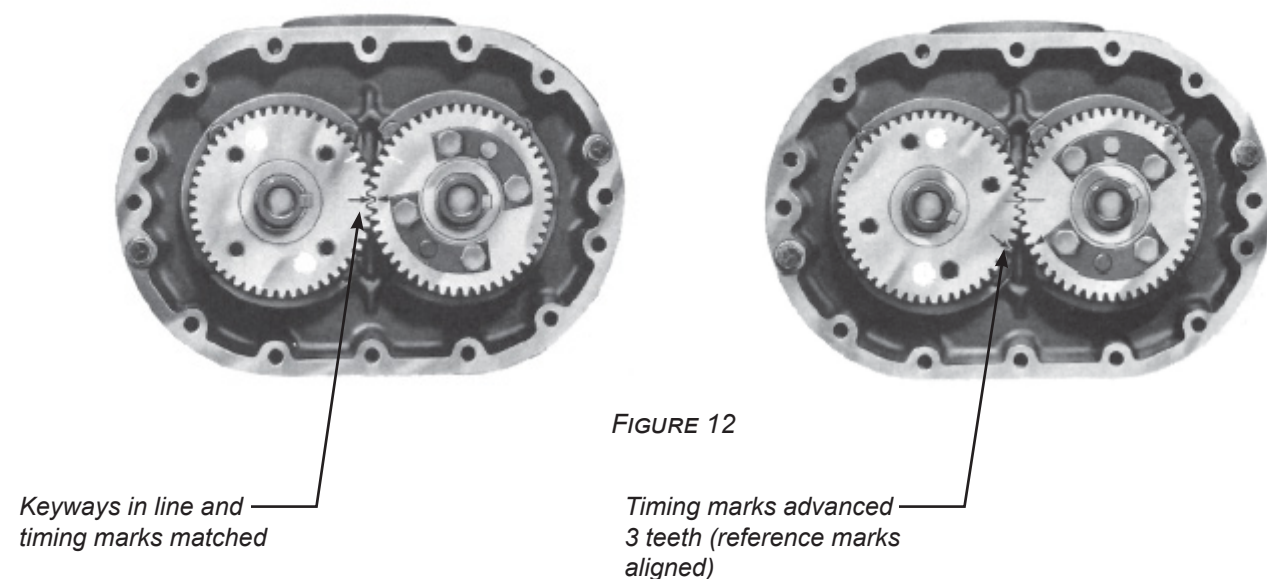

FIGURE 12
9. Align the timing marks (See Figure 12 on timing gears).
10. Rotate the drive gear in a clockwise rotation approximately 4 or 5 teeth and mark this location (see Figure 12). This gear position is necessary so rotors will clear and not jam. Do not allow the reference marks to change location while the driven gear is being removed
20. Lubricate the shafts and install the drive gear (right hand helix) on the drive rotor (left side). To install the driven gear, align the reference marks as shown in Figure 12. Install the driven gear carefully to avoid mashing any teeth when engaging the opposite gear.